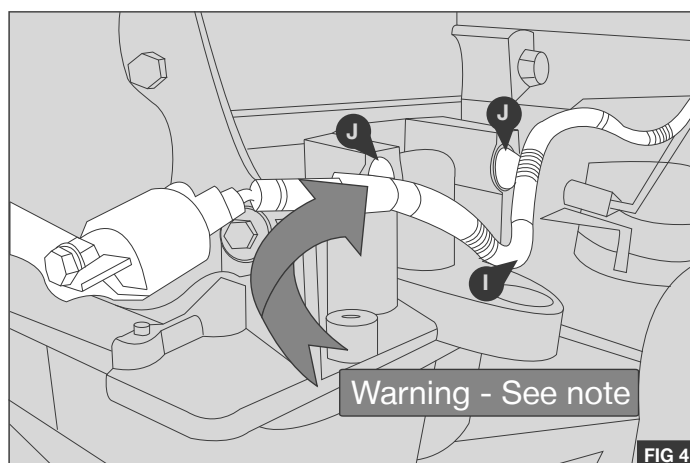

FIG 4
9. Remove the original manufacturer's loom (I) from the two mounting holes (J) located on the near side of the engine block and tie back in a suitable location - Fig 4
Warning: Take care when removing the mounting clips securing the loom from the engine block to avoid damage to the threads - Fig 4